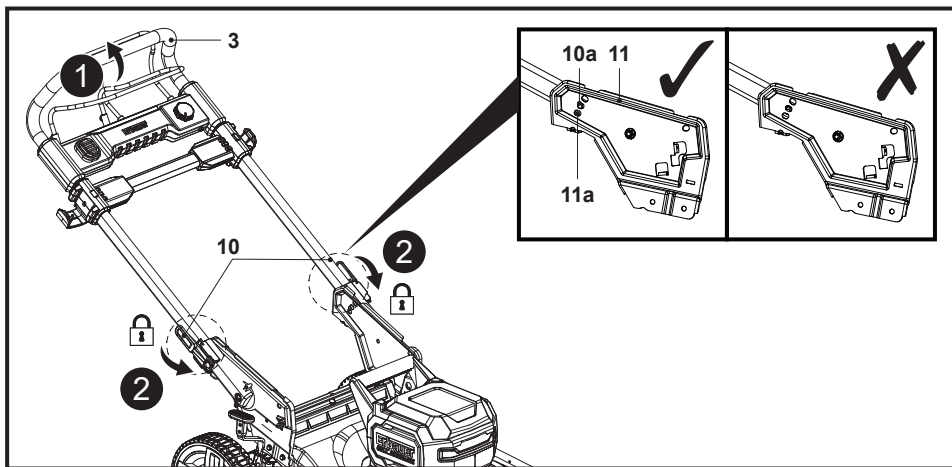

Fig. 2
3. Grasp the grip handle (3) and keep rotating the handle assembly until the lock pin (10a) of the lock lever (10) automatically engaged in one of the holes (11a) of the handle support (11), depended on the need of handle height; Rotate the two lock levers (10) clockwise to secure the assembly (Fig. 2, steps 1, 2).